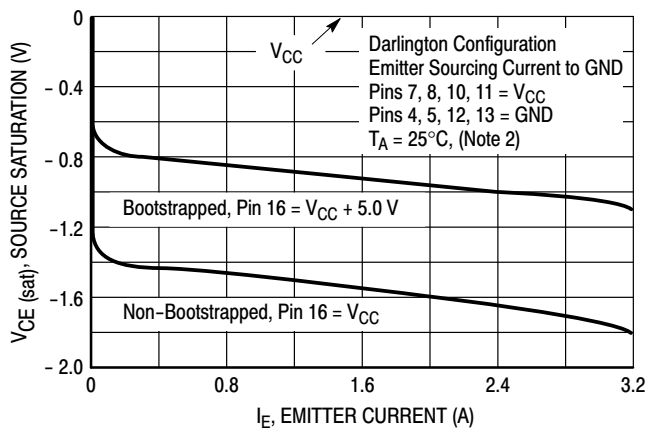

Figure 10. Output Switch Source Saturation vs. Emitter Current
1. V_{sat} – Saturation voltage of the output switch, refer to Figures 10 and 11.